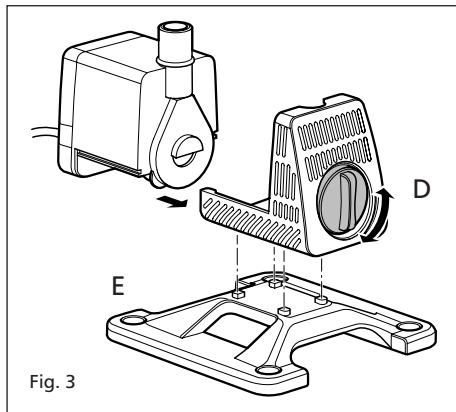

Fig. 3
The flow from the pump can be regulated to meet your needs by rotating the flow controller on the front of the pump. See Fig 3 (D).
For extra stability when using the fountain attachments, clip the pump onto the separate base plate. See Fig 3 (E). This can be secured to a surface with screws through the holes in each of the base plate corners.